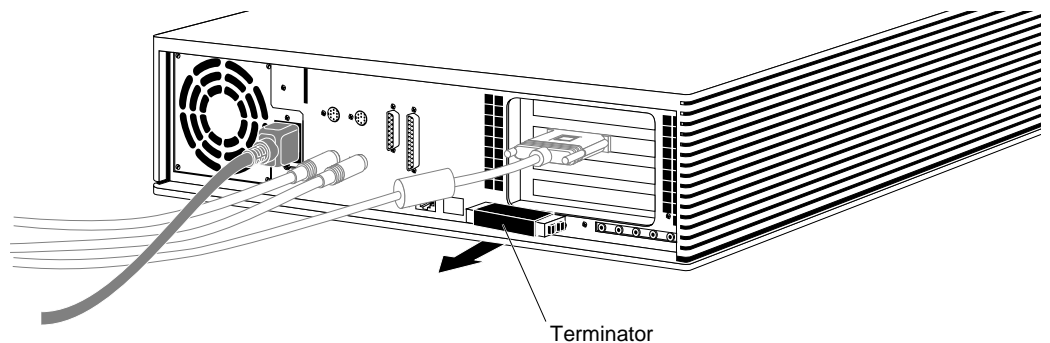

Figure 5-6 Removing the Terminator From the Indigo² Workstation
- If you are attaching the device to the workstation, remove the terminator from the SCSI connector on the Indigo² chassis by squeezing the clips on both sides of the terminator and pulling it off. (See Figure 5-6.) Save the terminator. You must reattach it to the SCSI connector if you remove and do not replace the external device.